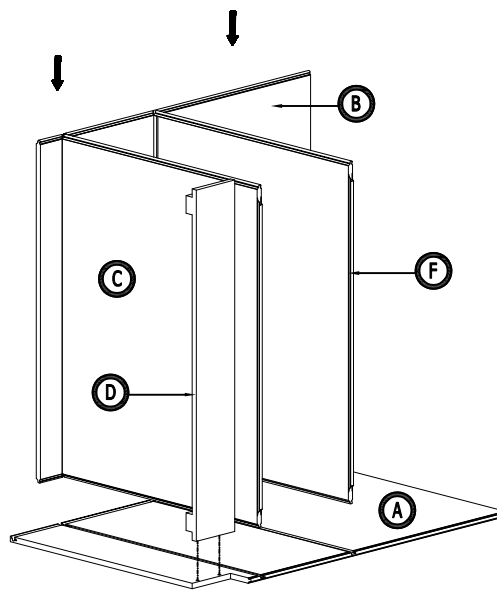

Figure 2
2. Install the Back Panel, bottom, toe kick, top panel : Insert the back panel (B), the bottom (C) toe kick (D) and top panel (F) into the groove of the side panel (A) and click it into place. (Figure 2)